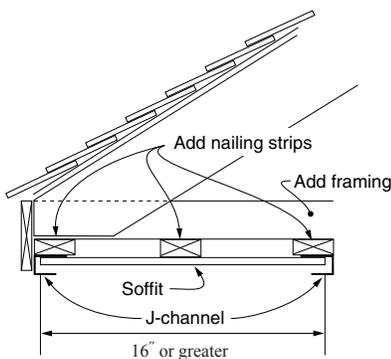

Fig. 4
*NOTE: If the eave span is over 16", nailing strips must be installed (Fig. 4).*